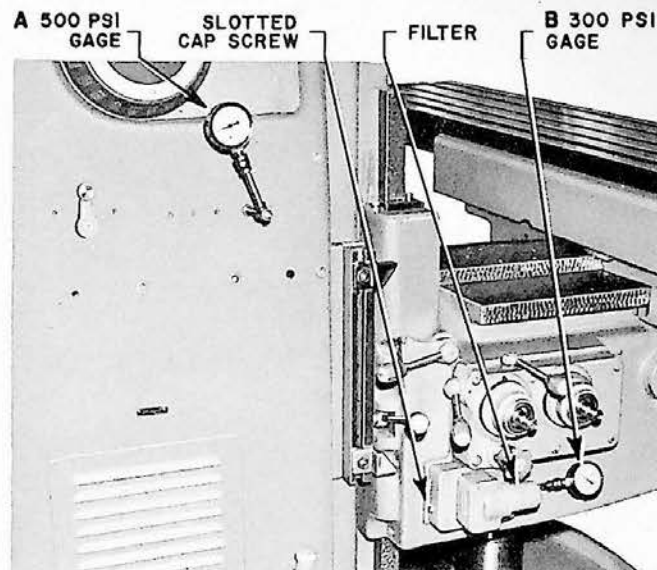

FIGURE 19B
### To Adjust Column and Knee Hydraulic Oil Pressure (Figure 19B; pages 46 and 154)
1. Run machine until oil is warm. Stop machine and set reversing lever in neutral (center position). Insert a 500 psi gage in place of 1/4" pipe plug A (Figure 19B) to obtain column pressure or a 300 psi gage in place of pipe plug B nearest filter (Figure 19B) to obtain knee pressure.
2. For column hydraulic pressure, remove slotted screw (4AJ-69) and lock screw (67); turn adjust-